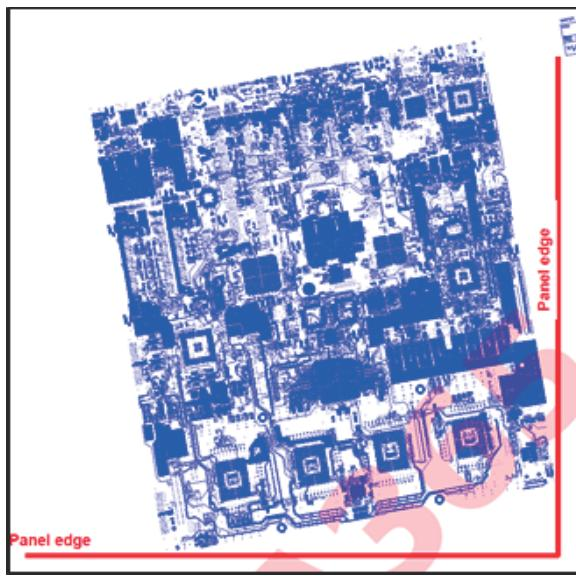

Figure 3-11: Rotated Panel to Compensate for Glass Non-Homogeneity
- **1086 Mechanically Spread (MS) Glass, 700–900 fs skew per inch:** MS glass is spread in both directions to achieve greater homogeneity.
- **Image Rotation, 500–100 fs skew per inch:** Rotating the image on the PCB panel, as shown in Figure 3-11, can help offset panel x-y non-homogeneity. The recommended rotation is 12 degrees.